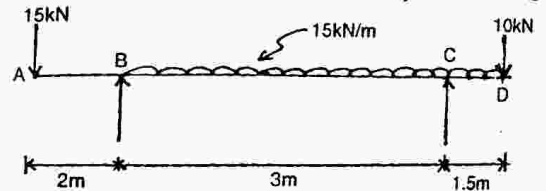

Fig. 6
10. For the beam shown in Fig. 6, calculate slope at 'A' and 'D'. (14)